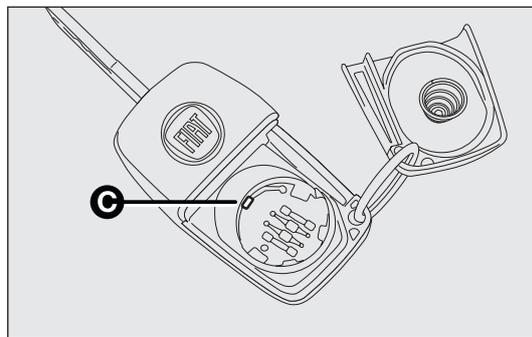

fig. 9
- the new battery shall be fitted under the catch C-fig. 9; then refit the lid and press it down until hearing the locking click.